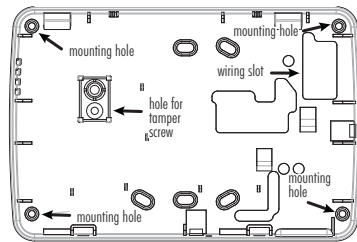

Figure 2 - Mounting the backplate.
4. Secure keypad backplate to wall using mounting holes. (See Figure 2.) Use all 4 screws provided unless mounting on a flush box. Use the plastic anchors supplied if the unit is to be mounted on drywall. If using the keypad tamper, secure the tamper plate to the wall with a screw.